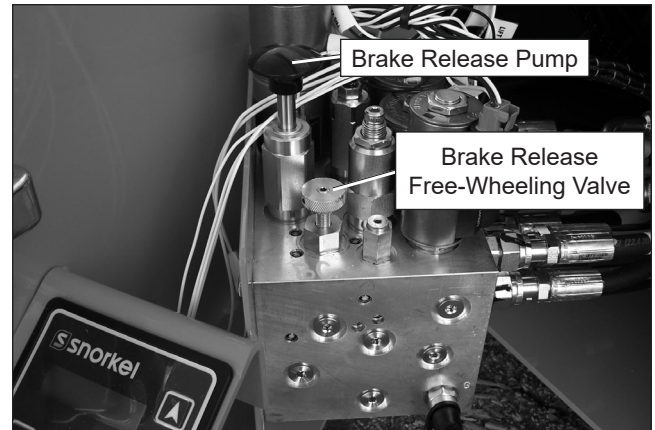

Figure 10.6 – Hydraulic Tray
2. Unlatch and swing out the control valve tray on the right side of the machine. The brake release pump and the brake release/free-wheeling valves are located on the top of the hydraulic manifold (refer to Figure 10.6).
2. Raise the door on the right side of the platform to access the loading controls (refer to Figure 10.6).
4. The drive switches (refer to Figure 10.6) are momentary contact. These switches control the two front wheels to drive the aerial platform.
5. The steer switches (refer to Figure 10.6) are momentary contact. These switches control the two front wheels to steer the aerial platform.